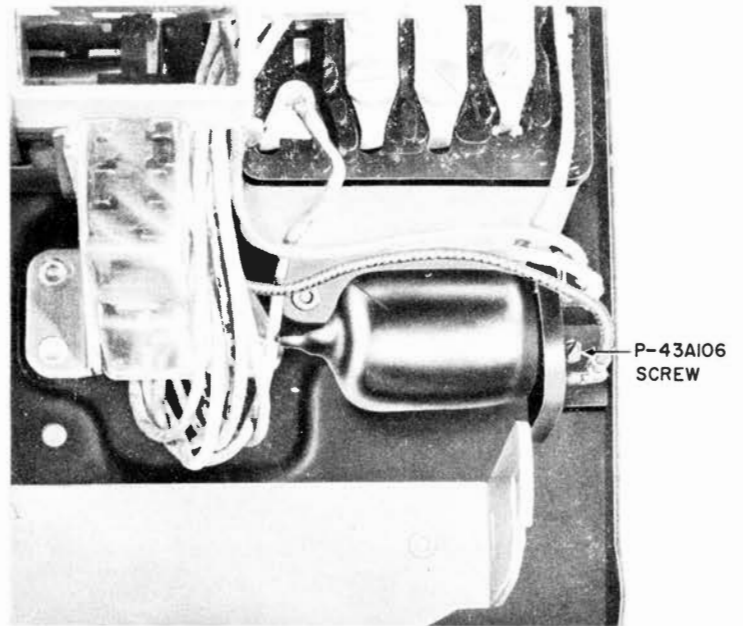

Fig. 30 — 501-Type Set, Tube Assembly
4.06 The tube assembly is held in position by tube assembly mounting screw (see Fig. 30).